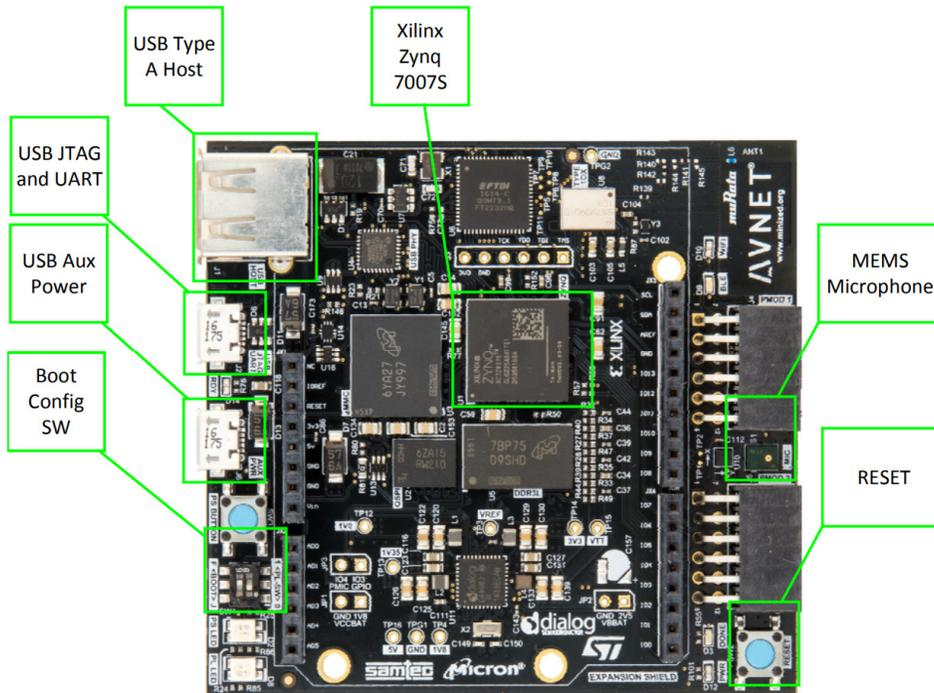

Figure 27 – Reset Button
- b. If your MiniZed boot configuration switch is similar to the above, remove the protective film and slide switch 1 (indicated by the silkscreen DASH above the F) to be toggled to FLASH Booting (F).
- c. Reboot your MiniZed using the Reset button (see Figure 27 – Reset Button)